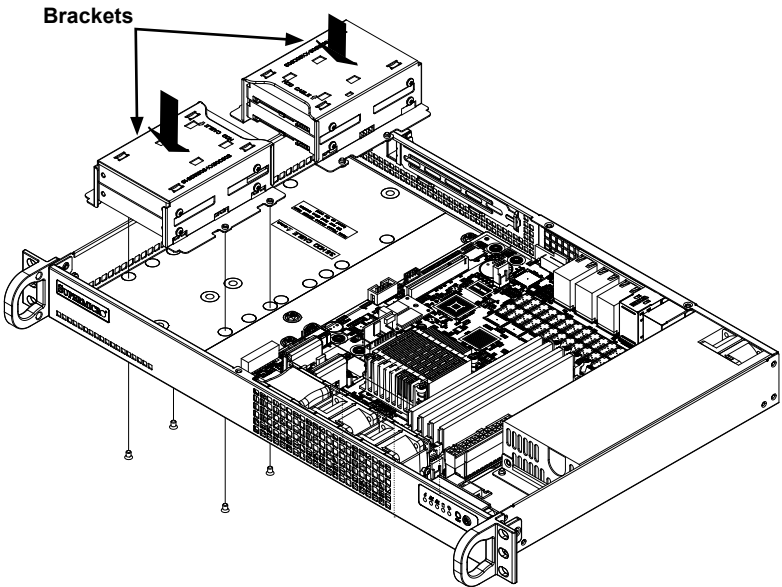

Figure 3-12. Installing 2.5" Drives in the Chassis
3. Place the hard drive bracket in the chassis as illustrated in Figure 3-12.